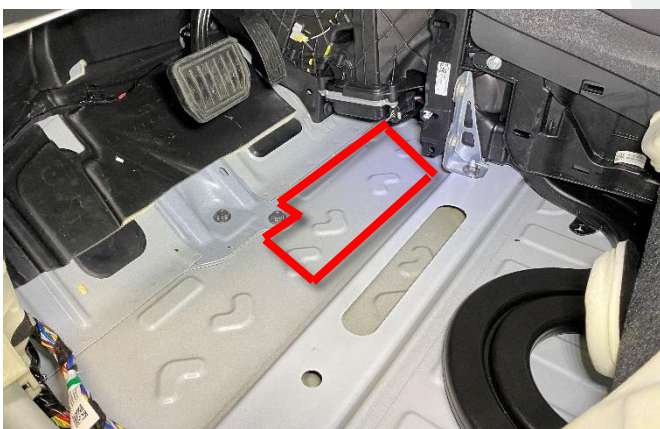

Figure 8 – LH front floor panel
14. Clean the floor panel butyl installation areas highlighted with Isopropyl Alcohol (IPA) wipes (Figures 8 and 9). Allow 1 minute for the area to dry before continuing.